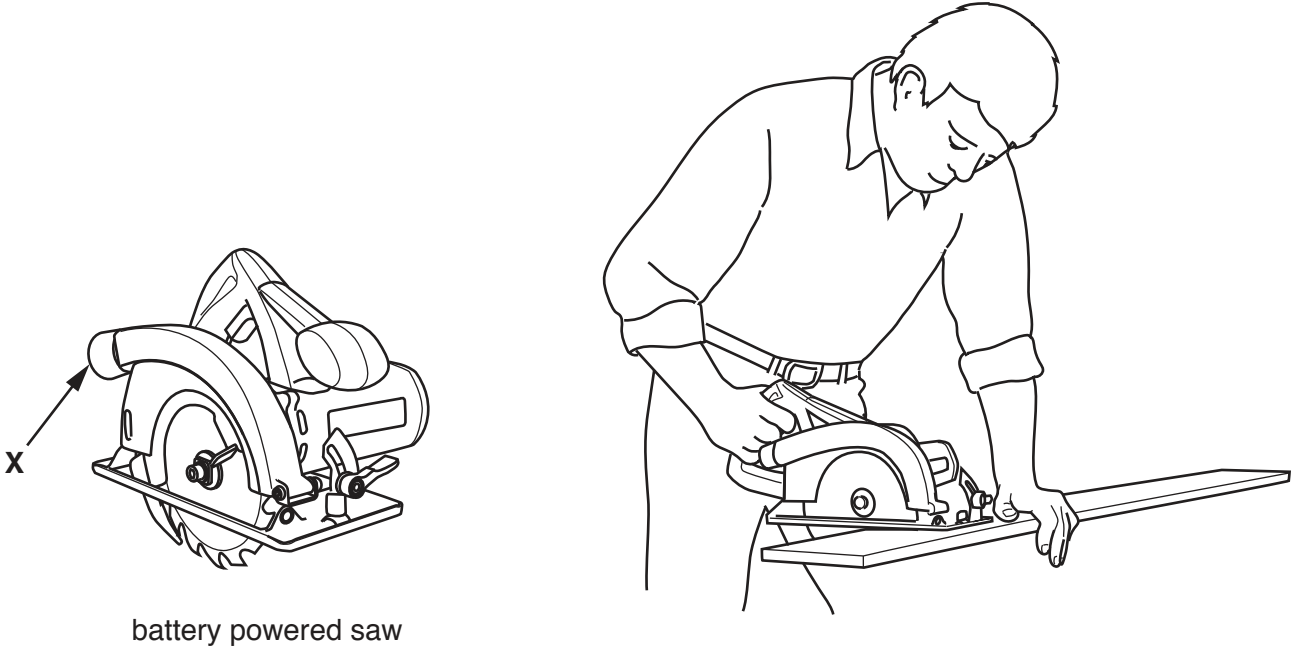

Fig. 4
- 4 Fig. 4 shows a hand held circular saw being used.
- (b) Identify and describe **two** problems that make the working conditions shown in Fig. 4 dangerous. [4]